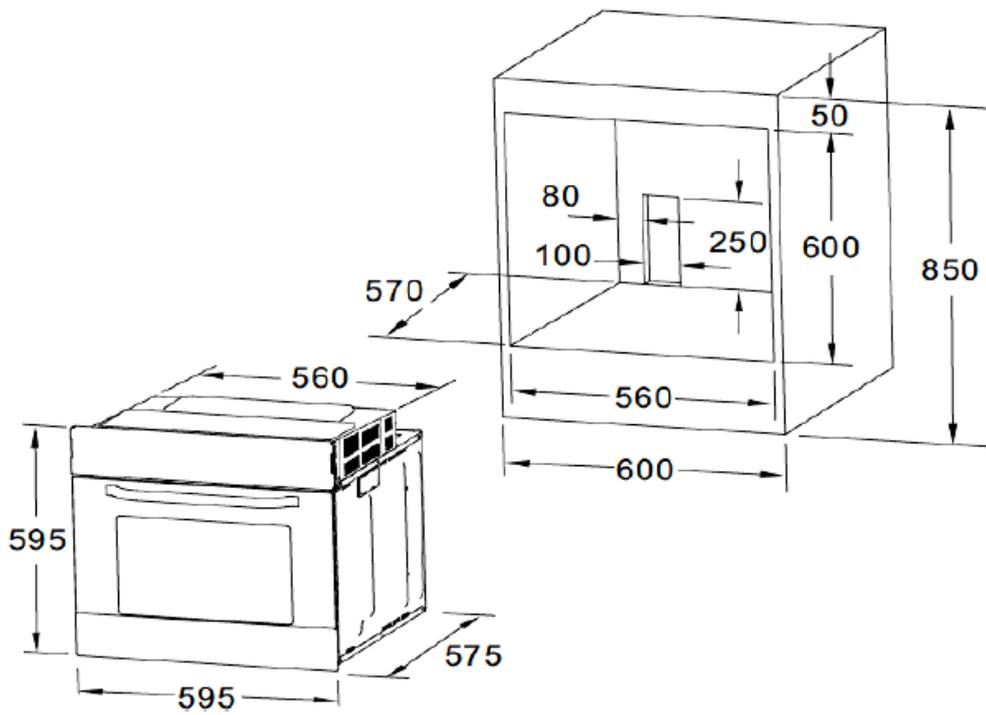

Fig. 1
1. Provide an opening meeting the dimensions on figure 1. Fit the appliance into the opening.